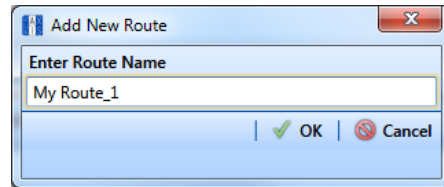

Figure 7-7. Add New Route
- 3 If this is the first route to be created, the *Add New Route* dialog box opens. Type a name for the new route in the field **Enter Route Name**. Then click **OK** (Figure 7-7).